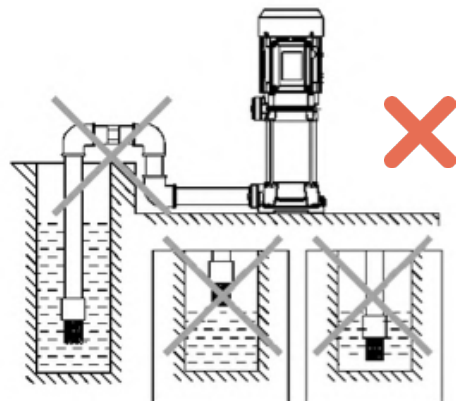

Fig. 2
2. The foot valve should be positioned vertically and installed 30 cm from the bottom of the water to avoid suction of sand and stones (fig. 2).
5. Pay attention to the water level drop during use, the foot valve must not be above the water surface (fig.2).